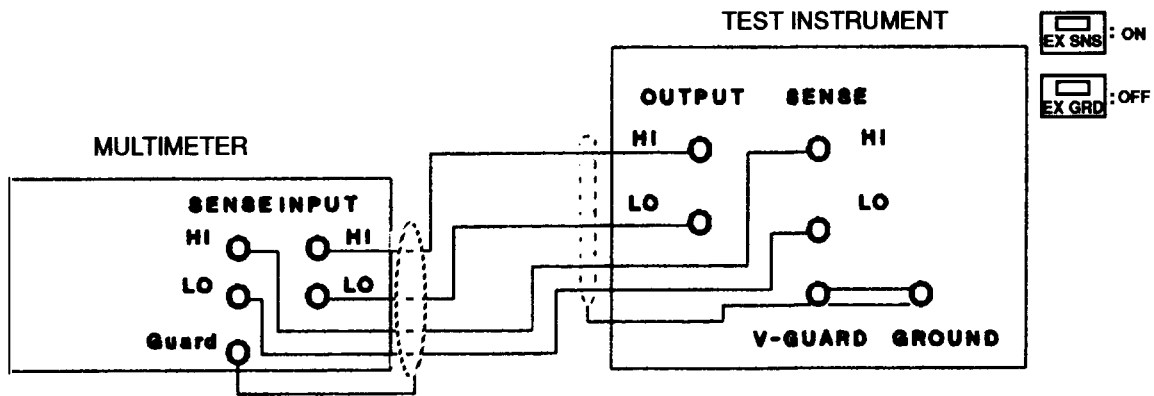

Figure 5. Resistance (0 through 1 MΩ).
- a. Connect equipment as shown in figure 5.